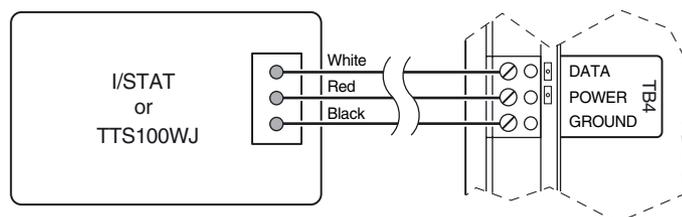

Figure 6. I/STAT Connection
5. Connect the black lead (Ground) on the I/STAT to TB4-3 (Ground) on the controller (see Figure 6).